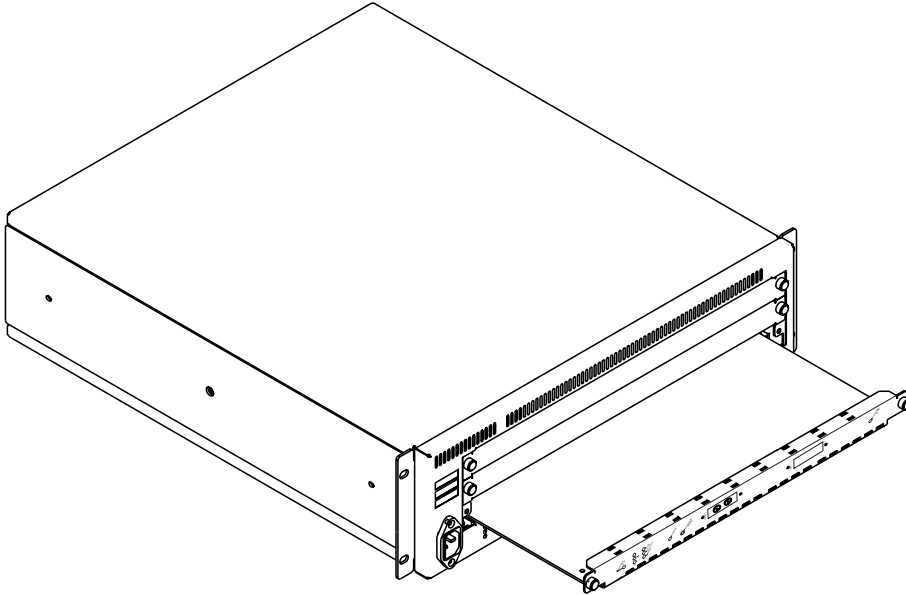
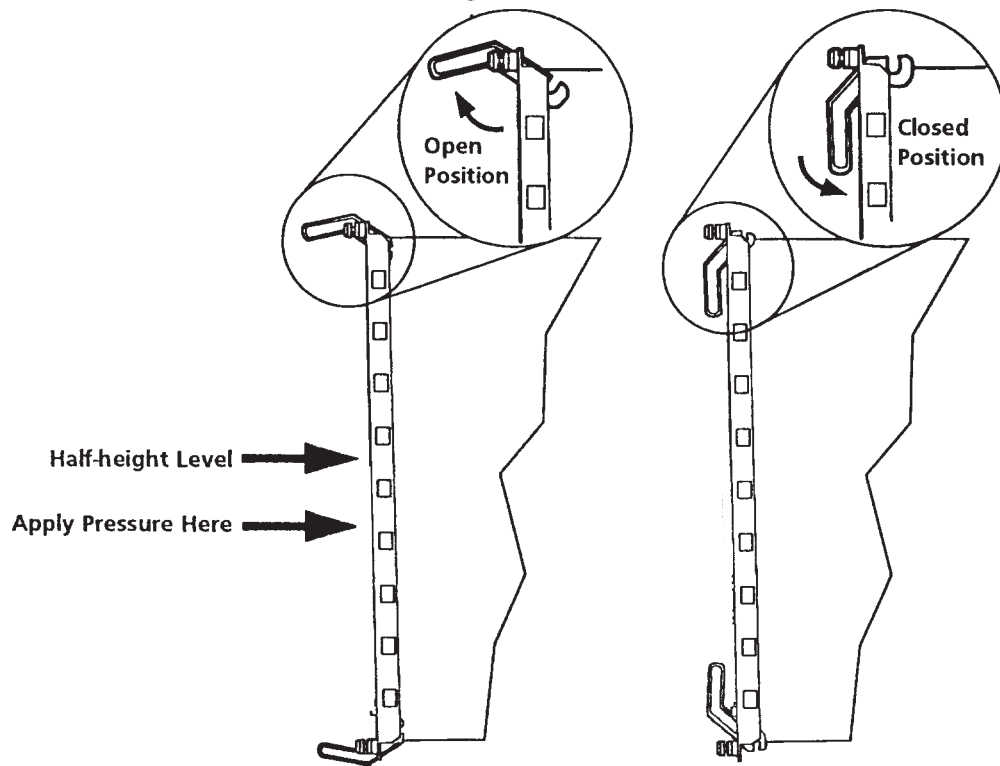

Figure 9. Inserting the Module in an 8285 Expansion Unit
Figure 10. 8285 Module Ejectors
3. Insert the A2-WAN module into the slot in the expansion unit as shown in Figure 9, matching the left and right board guides as you slide the module cleanly into place (by pressing evenly on the top and bottom of the faceplate). Do not attempt to push the module all the way in until you have verified that the left and right module ejectors are OPEN (see Figure 10 on page 36.)